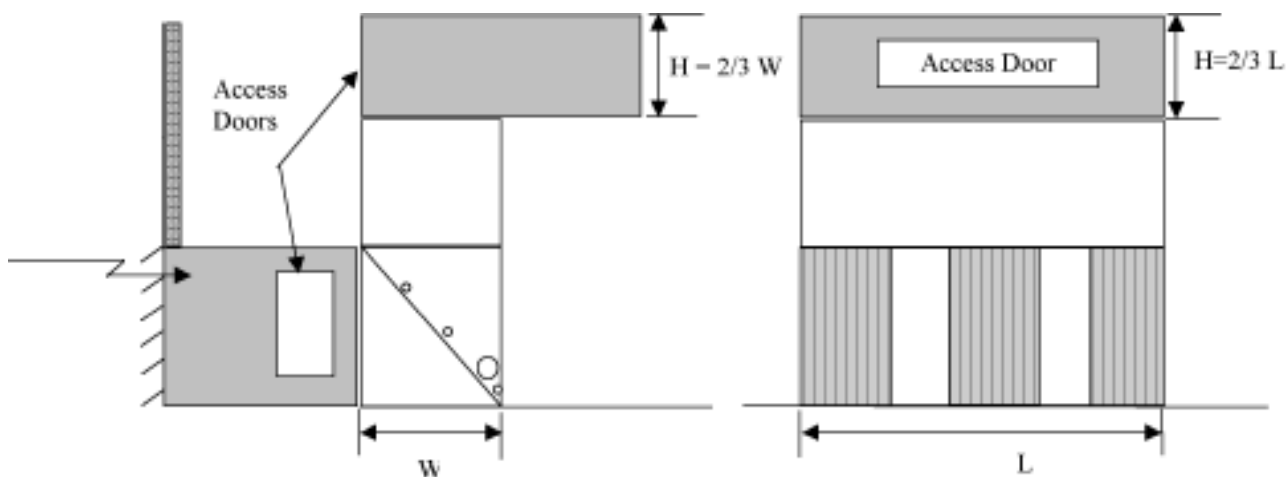

Figure 7: Section & front view of ducted unit enclosure
- Turns in inlet or discharge ducts should be avoided. Where turns must be used, velocities should be minimized in the vicinity of the turn. Turns in discharge ducting should be designed in accordance with the "2/3's rule" shown in Figure 7